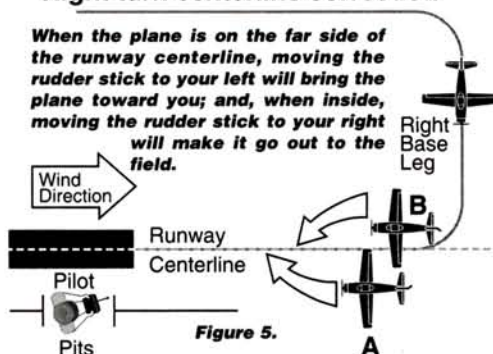

Figure 5.
• If you move the rudder stick to your right, the plane will fly out to the field (see Figure 5, plane A).
• If you move the rudder stick to your left, the plane will come in to the pits (see Figure 5, plane B). Practice this lining-up procedure by imagining the runway centerline about 100 feet out from you and parallel to the *actual* runway centerline. Also, practice imaginary landings at an altitude of 20 feet or so to get used to the way your model responds. This procedure will prevent you from flying over or landing in the pits, and it will prevent you from hitting that ever valuable safety fence (very hard on the plane). Once you have mastered the directional control, you can line up your plane on the actual runway centerline and land.